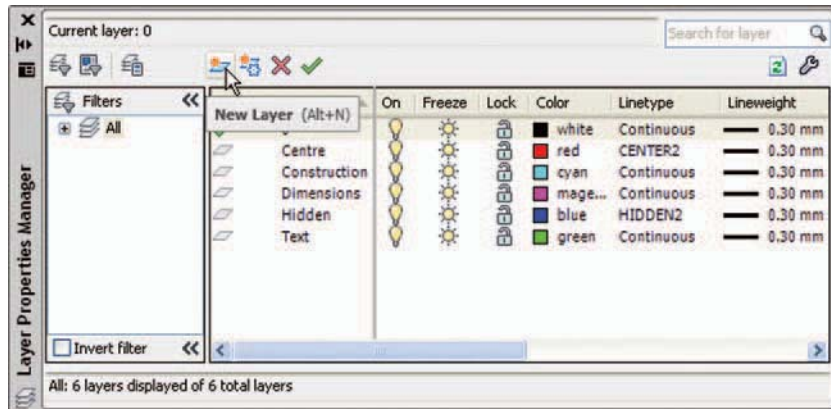

Fig. 4.16 The Layer Properties Manager palette
1. At the command line enter **layer** followed by a *right-click*. The **Layer Properties Manager** palette appears (Fig. 4.16).